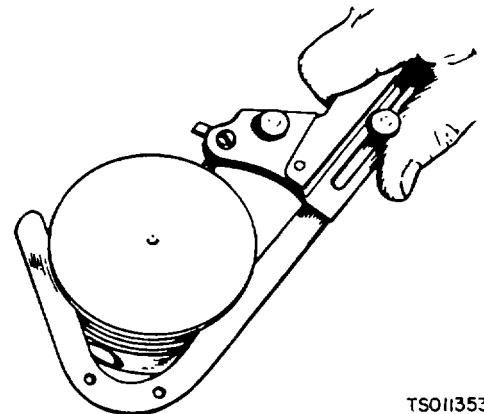

Figure 6-20. Cleaning Ring Grooves
(1) Clean all parts in an approved cleaning solvent. Dry thoroughly with clean lint-free cloth. Remove carbon deposits from piston ring grooves. Use piston groove cleaner tool Onan Part No. 420-0332 to remove dirt in grooves (fig. 6-20). Blow out all oil passages with compressed air.